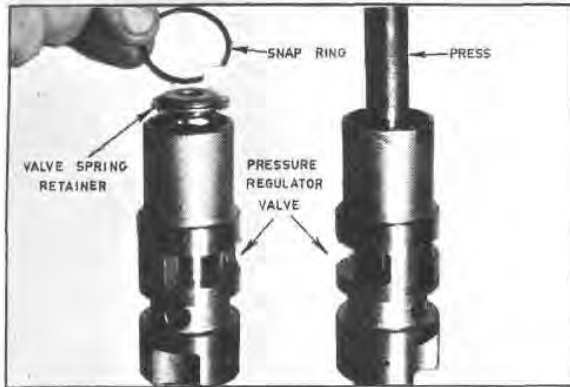

Fig. G45 — Valve Spring Depressed and Snap Ring Removed
31. Place the valve and spring assembly in a suitable holder so constructed to hold the assembly in a vertical position (Figure G45). Place the assembly and holder on an arbor press and, using a suitable tool, depress
the valve spring retainer and valve spring. The valve spring retainer snap ring can then be removed (Figure G45). Components of the valve and spring assembly can be removed in the order shown in Figure G46. Inspect the valves for burrs or nicks. Check to see that the regulator valve slides freely in the rotary control valve.